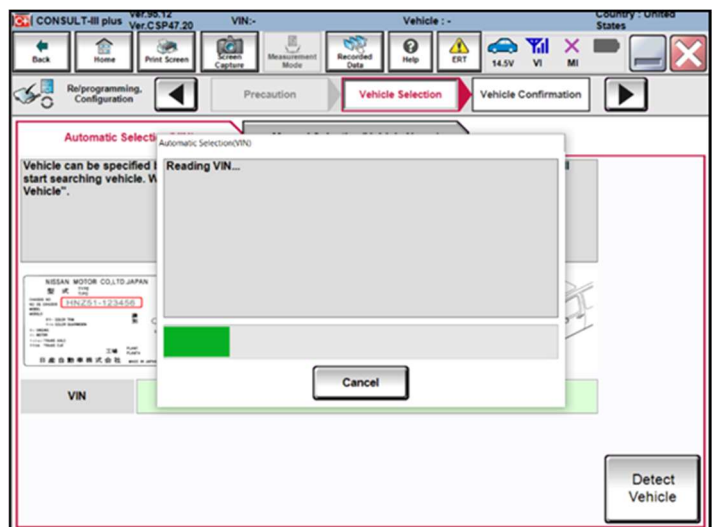

Figure 16
18. Perform Automatic VIN selection. (Figure 16)